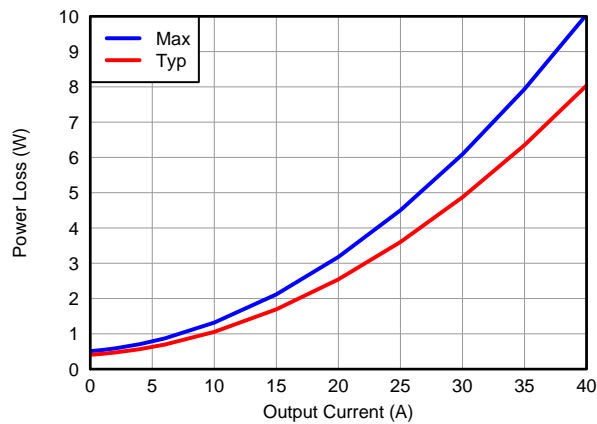

Figure 7. Power Loss vs Output Current
MOSFET centric parameters such as  $R_{DS(ON)}$  and  $Q_{gd}$  are primarily needed by engineers to estimate the loss generated by the devices. In an effort to simplify the design process for engineers, Texas Instruments has provided measured power loss performance curves. Figure 7 plots the power loss of the CSD97370AQ5M as a function of load current. This curve is measured by configuring and running the CSD97370AQ5M as it would be in the final application (see Figure 18). The measured power loss is the CSD97370AQ5M device power loss which consists of both input conversion loss and gate drive loss. Equation 1 is used to generate the power loss curve.
The power loss curve in Figure 7 is measured at the maximum recommended junction temperature of  $T_J = 125^\circ\text{C}$  under isothermal test conditions.
- Typical Power Loss at 25A = 3.5W (Figure 7)